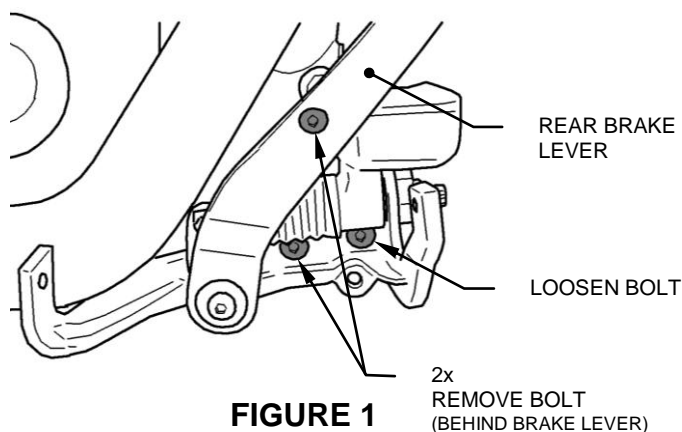

FIGURE 1
1. Unplug O₂ sensors on front and rear headpipes from motorcycle wire harnesses. Remove stock exhaust system. On FLSTC, FLSTN, FLSTF, and FXSTSC, remove the right floorboard. Remove the two floorboard mounting bracket bolts leaving the third in place but loosen and rotate mount down out of the way, See Figure 1. This will make installation of exhaust and heatshields possible.